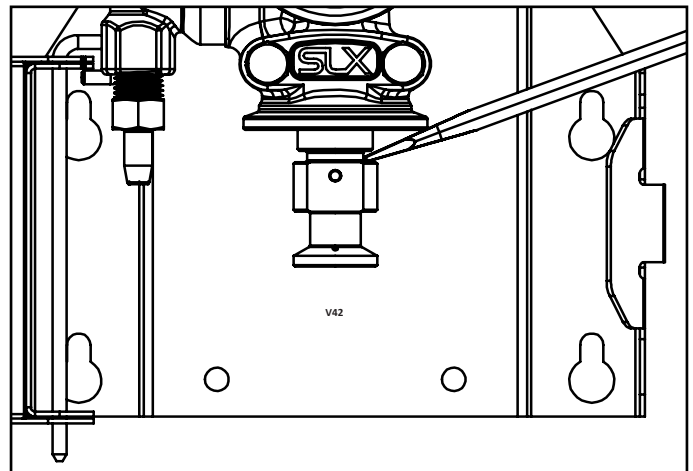

Fig. 8.1: Venturi insert removal using screwdriver
- A screwdriver can be used to pry the insert out if necessary [Fig. 8.1]